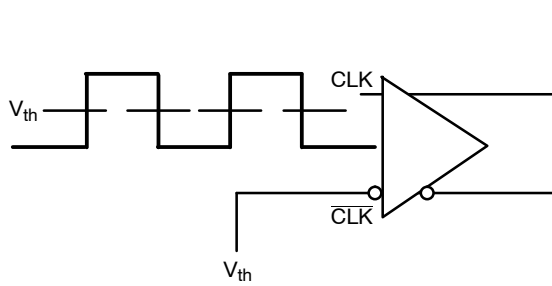

Figure 4. Single-Ended Interconnect  $V_{th}$  Reference Voltage
**DIFFERENTIAL INPUT DRIVEN SINGLE – ENDED** (See Figures 4 and 5)
**HCSL OUTPUTS** (Figure 4)
- $V_{th}$  is applied to the complementary input when operating in single ended mode per Figure 4.